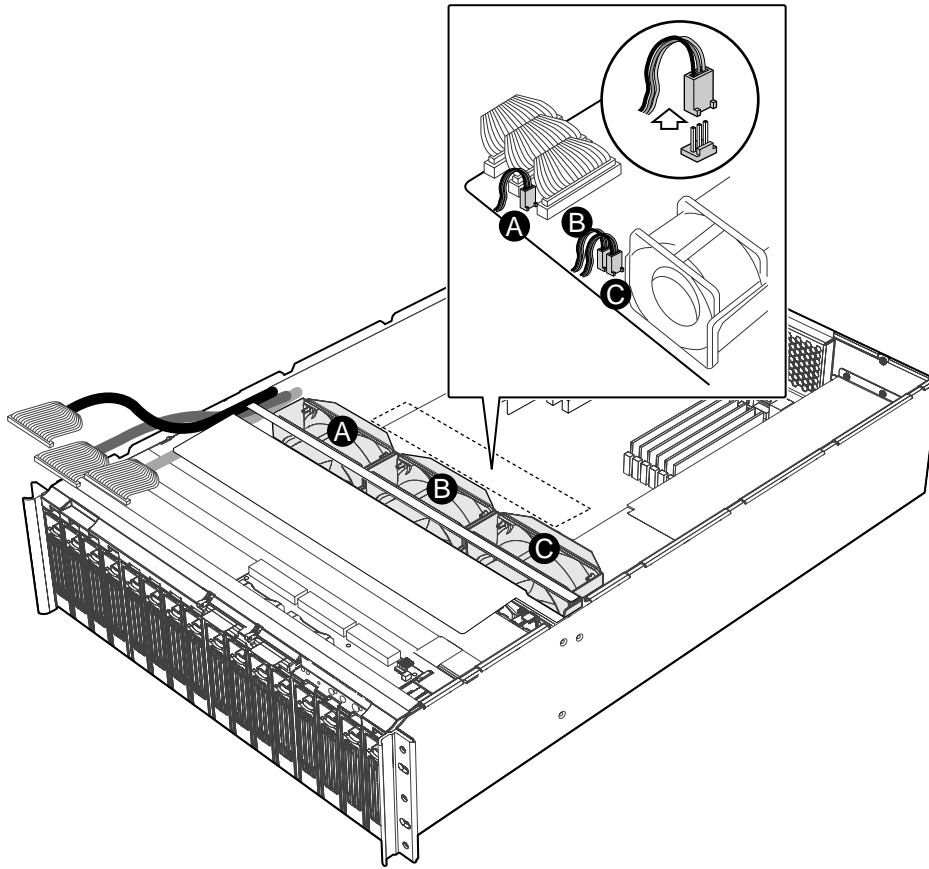

Figure 5. Removing Fan Connectors from the Baseboard
- A. Remove the wire connector for Fan 3 from the baseboard. See Figure 5.
- B. Remove the wire connector for Fan 4 from the baseboard. See Figure 5.
- C. Remove the wire connector for Fan 5 from the baseboard. See Figure 5.